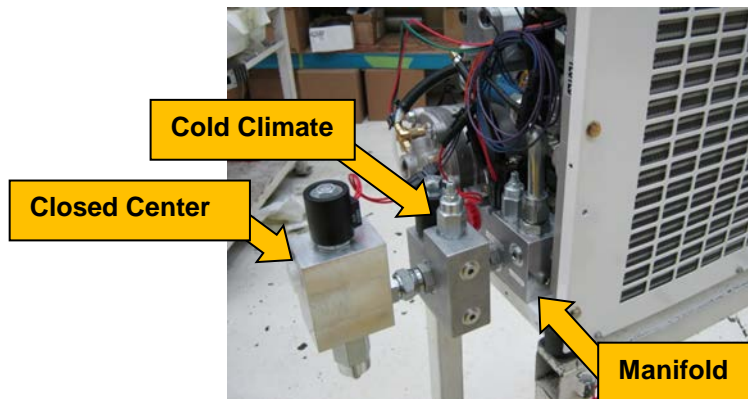

Figure 1 - Kit Install Order
- If installing a Closed Center Kit on a PREDATAIR with a Cold Climate Kit, ensure the Closed Center Kit is installed farthest from the manifold (Figure 1).